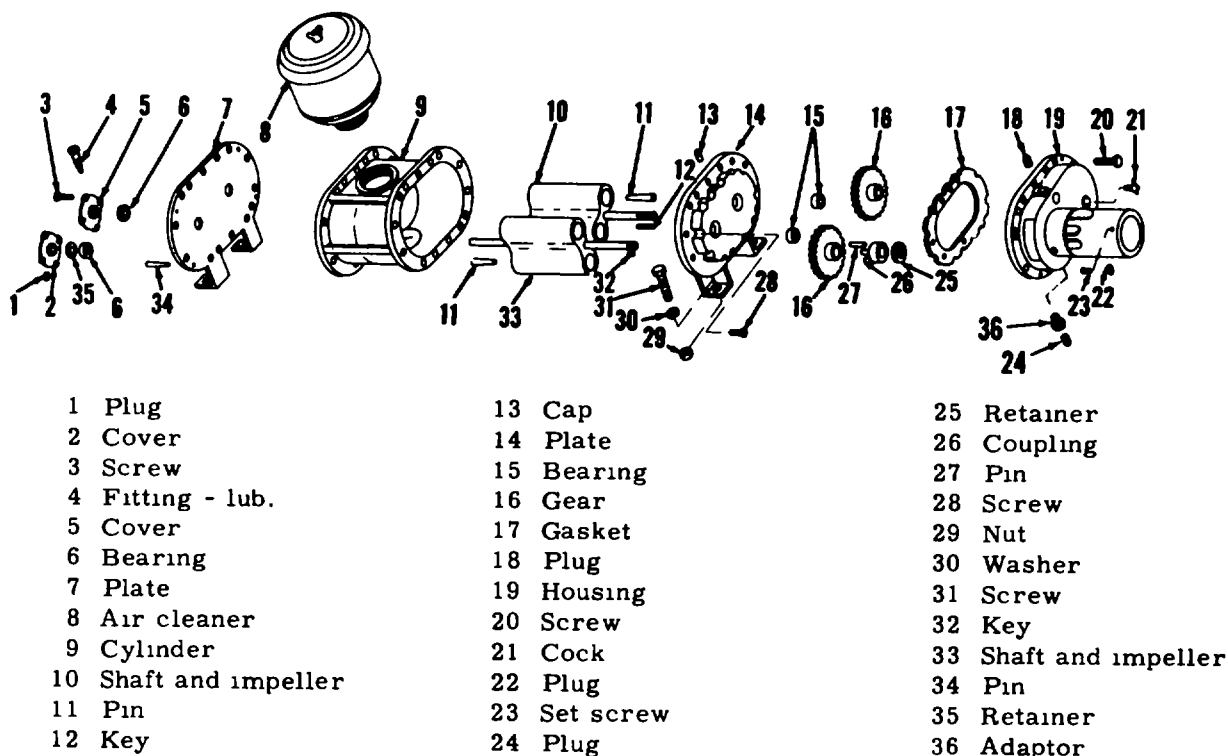

Figure 87. Blower Assembly
- a. Remove the burner fuel pump. See figures 87 and 247.
- e. Remove the two spur gears (16).
- f. Remove the gear end, headplate (14).
- g. Remove the drive cover and the end housing cover (7).